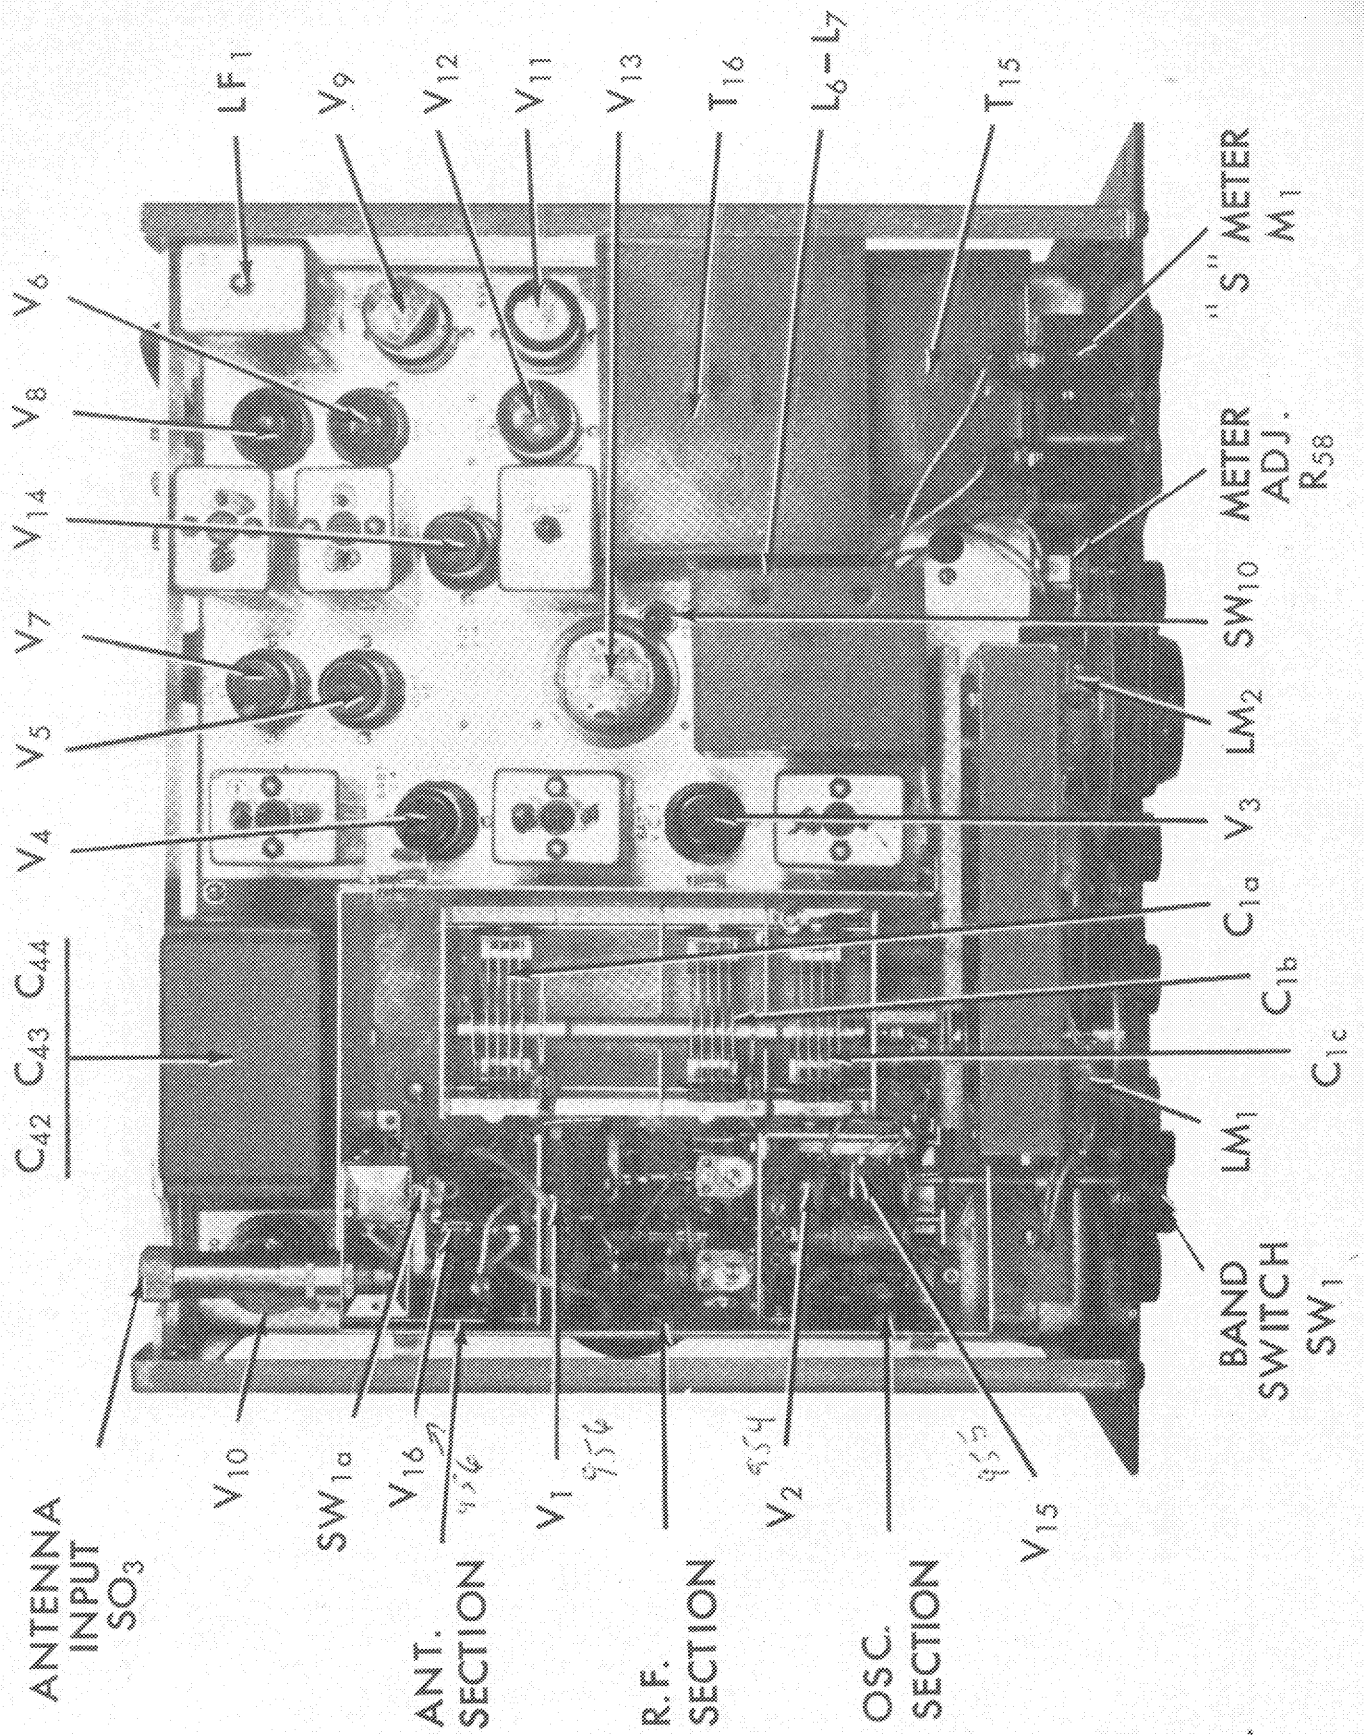

Figure 4. Radio Receiver CHL-46298, Top View Of Chassis
| Figure 4. Radio Receiver CHL-46298, Top View of Chassis . . . . .         | 5           |
c. All tubes with the exception of the four acorn type tubes can be reached from the top of the chassis. Acorn tubes V1, V2, V15 and V16 are reached by removing the top cover plate of the r-f sections. See figure 4 for location of all tubes.
a. See that the tubes are secure and in their proper sockets. Reference to figure 4 will show their proper location. The four acorn type tubes are made accessible by removing the shield cover over the r-f section.